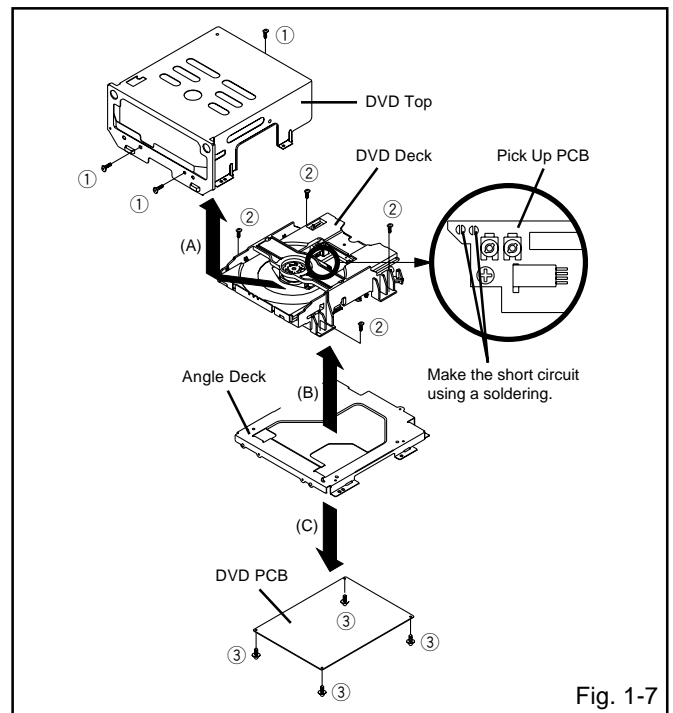

Fig. 1-7
## 1-7: DVD PCB/DVD DECK (Refer to Fig. 1-7)
1. Make the short circuit on the position as shown Fig. 1-7 using a soldering. If you remove the DVD Deck with no soldering, the Laser may be damaged.
2. Remove the 3 screws ①.
3. Remove the DVD Top in the direction of arrow (A).